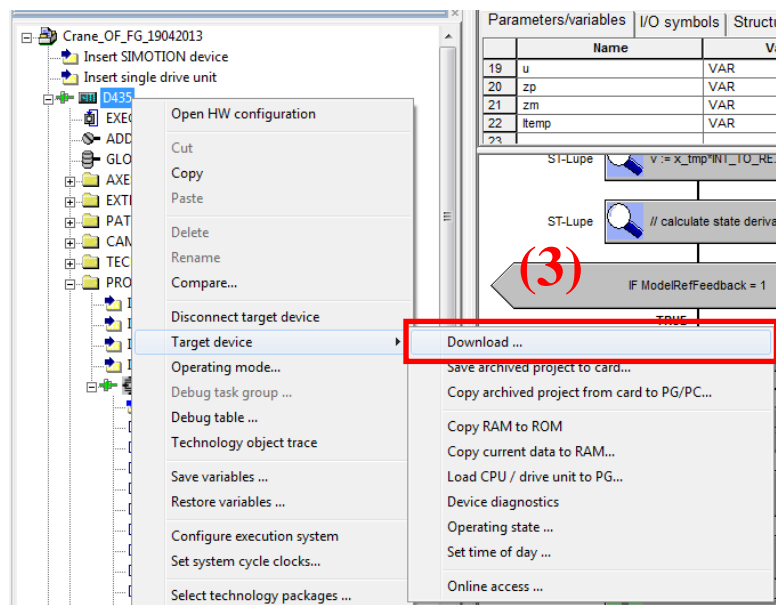

Figure 7: To download to PLC
- i. Download your new compiled code to the PLC using the “Download” button (3) in Figure 7.